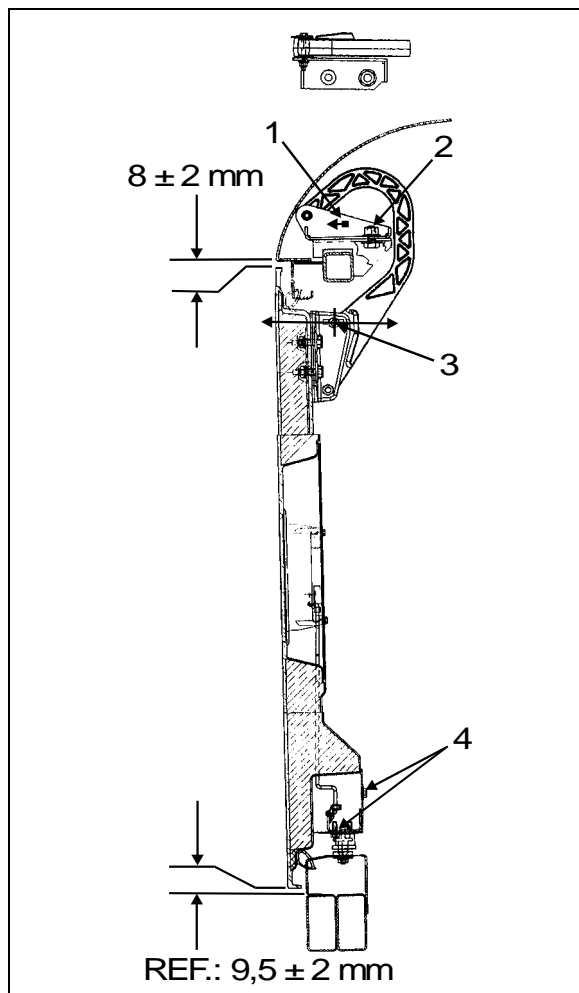

FIGURE 72: DOOR HINGE
2. Loosen nut (2, Fig. 72).
3. Move part (1, Fig. 72), as close as possible to exterior of coach, so as to have enough clearance for proper door opening.
4. Tighten nut (2, Fig. 72).
5. Loosen nut (3, Fig. 72). Hinge allows the door to be shifted "IN or OUT".
6. Adjust door panel to have the same gap space as neighboring panels or refer to figure 45 for specified gap space. Only if necessary, use the adjustment allowed by moving part 1, Fig. 72.